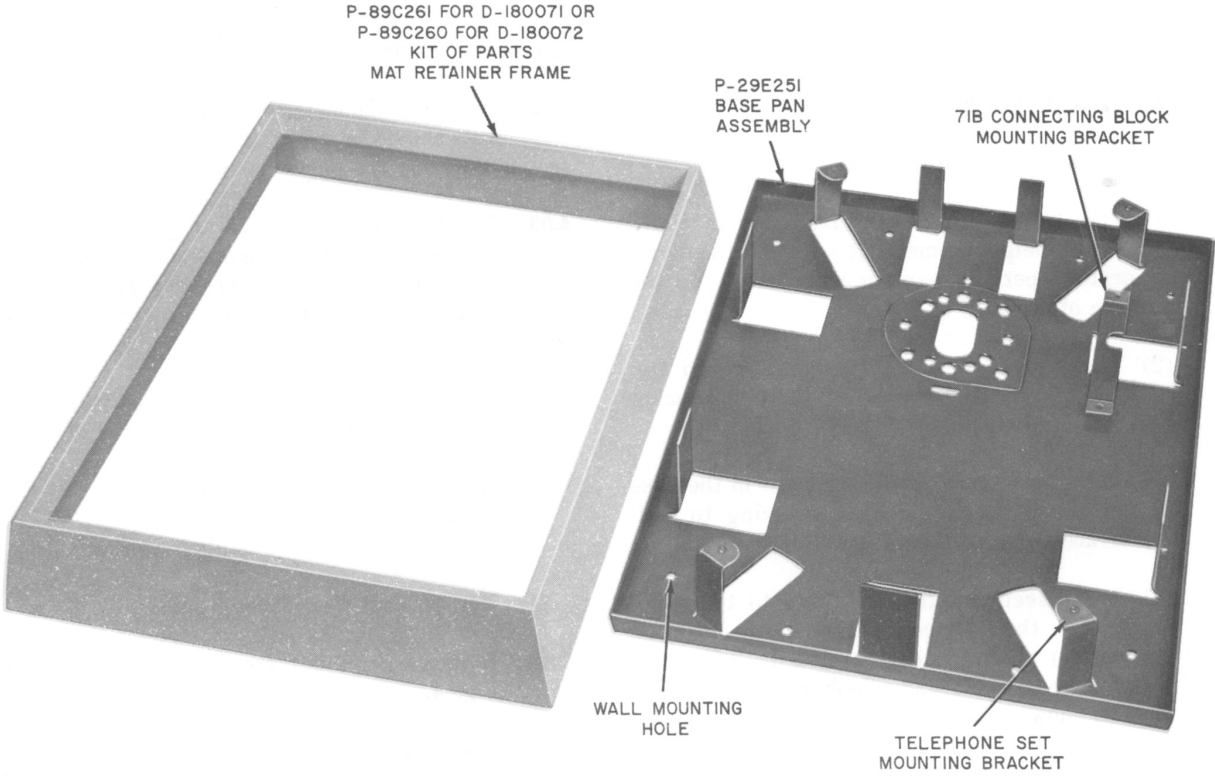

Fig. 2—D-180071 or D-180072 Kit of Parts for Surface Mounting
(1) The D-180071 (light gray frame) or D-180072 (light beige frame) Kit of Parts, ordered separately, permits mounting these sets on the surface of a wall (Fig. 2).
(2) The base pan assembly is arranged for mounting on a 63A or KS-19407L1 bracket or a standard electrical outlet box.